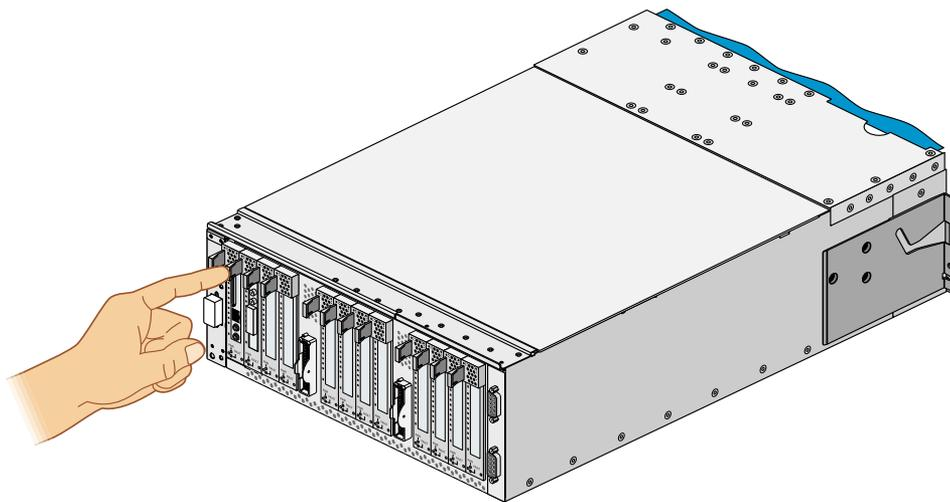

Figure 14-9 Seating Card in Slot
8. Push horizontally on the carrier seating bar, as shown in Figure 14-9, to seat the card securely in the slot.